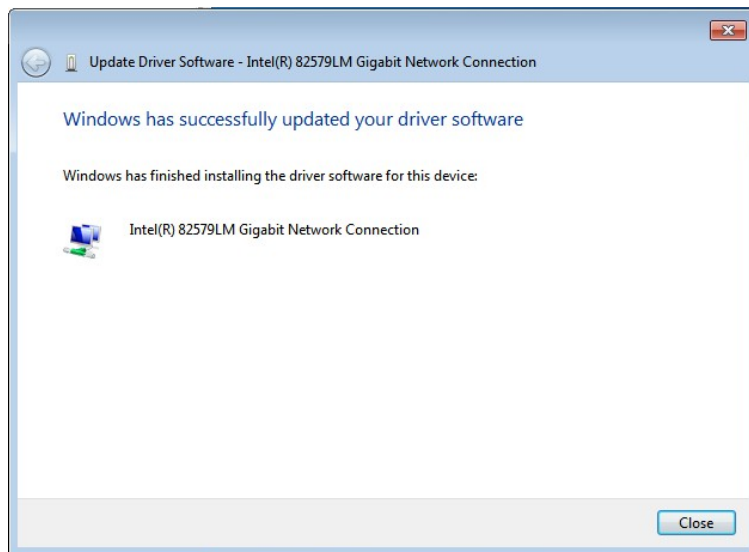

Figure 6-18: LAN Driver Installation Complete
Step 12: The **Finish** screen in **Figure 6-18** appears. Click **Close** to exit.